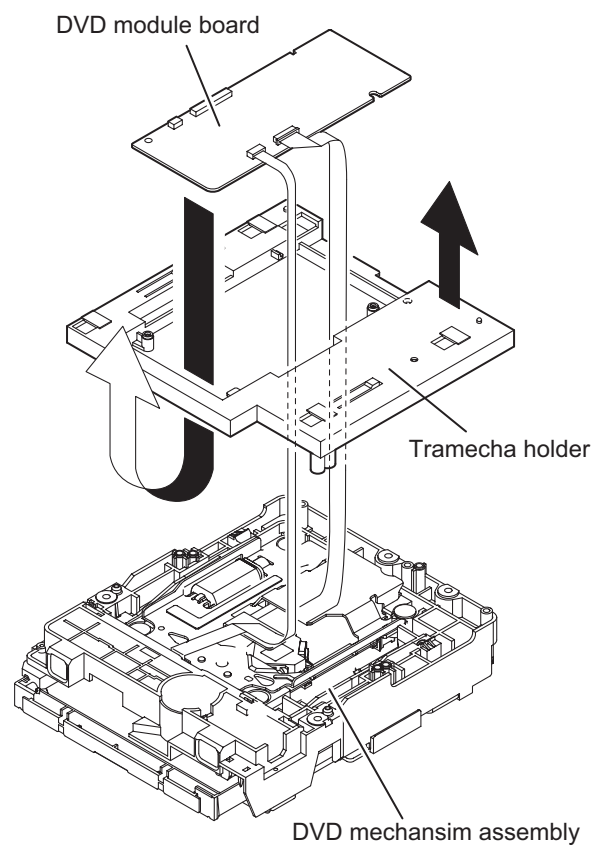

Fig.4
- (4) Through the DVD module board from mecha tramecha holder and take out the mecha holder. (See Fig.4)